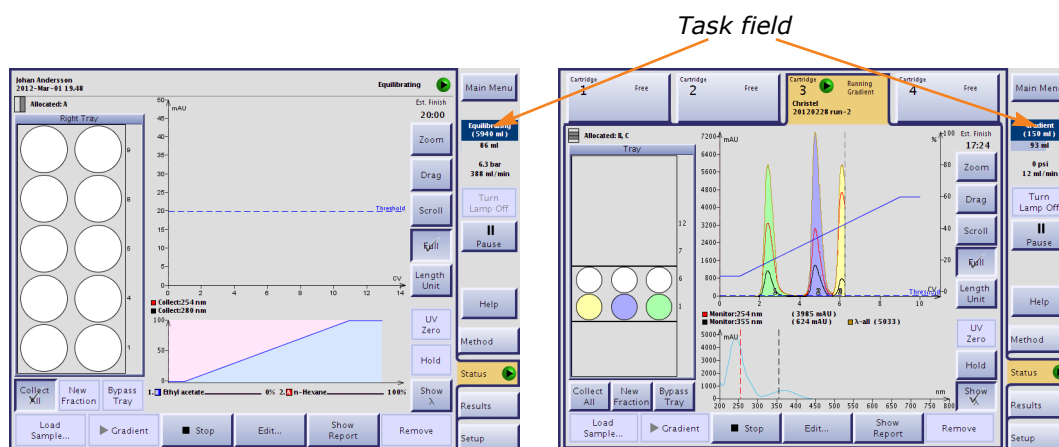

Figure 1-8. Chemistry Mode (Isolera LS and Isolera Four EXP with Isolera Spektra License Shown)
In the Chemistry mode, the software is divided into four (4) tabs that can be accessed in the right-hand panel (see Figure 1-8). Here is a short description of what you can do at each tab: